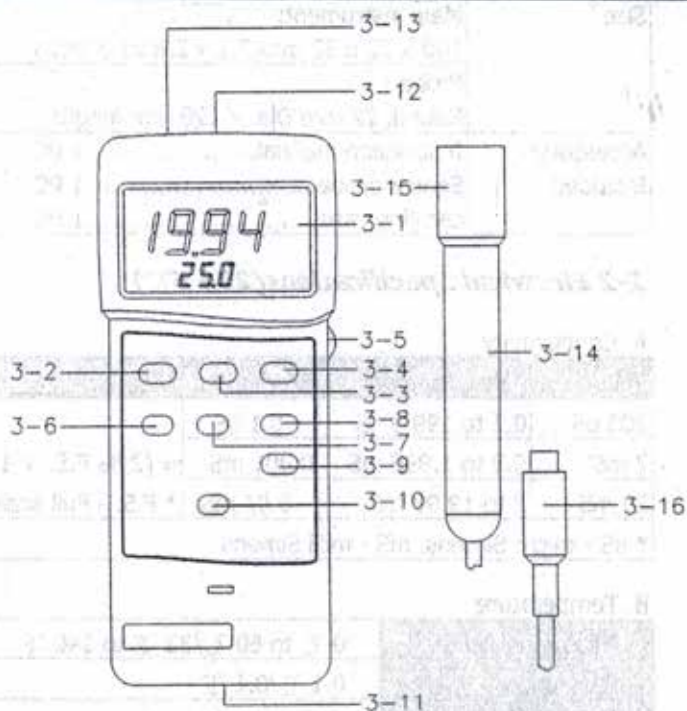

Fig. 1
- (1) Push the "Power Off/On Button"(3-2, Fig. 1) to power the instrument.
- (2) The instrument will default to 2% per °C Temperature Compensation factor. The meter has built-in Automatic Temperature Compensation adjustable between 0 to 5% per °C.
- a. Push the "Temp. Compensation Button"(3-10, Fig.1) ,the display will show
- b. Push the "Factor Adjust Button"(3-8, Fig. 1) to select the desired compensation factor. The value will increment in steps of 0.1 % per °C.
- c. Once the desired value is reached, push the "Temp. Compensation Button"(3-10, Fig. 1) to set the new value.
- (3) Select the applicable range, using the "Range Select Button"(3-9, Fig. 1).
(4) Immerse the "Conductivity Electrode "(3-15, Fig. 1) into the solution, up to the immersion level.
(5) During the measurement, the lower LCD Display will show the temperature of the solution.
** Push the "C/°F Button"(3-4, Fig. 1) to change the temperature display unit from "°C to °F" or "°F to °C".*
* During measurement, pushing the "Data Hold Button"(3-3, Fig. 1) will hold the display values & the LCD will show the "D.H" symbol.
* The DATA RECORD function displays the maximum, minimum and average readings. To start the DATA RECORD function, press the "Record Button"(3-6, Fig. 1) once. "REC" symbol will appear on the LCD display.
- Push the "CALL Button"(3-7, Fig. 1) once, then the "Max" symbol with the maximum values recorded will appear on the LCD display.
- (d) To de-activate the Data Record function, Press the "Record Button" (3-6, Fig. 1) once again. All associated annunciators will disappear from the display.
To de-activate this feature, Select the memory record function during measurement, by pressing the "RECORD" button(3-6, Fig.1).
This is achieved by controlling the "LCD Contrast Adjust" pot (3-5, fig. 1).
- (1) Prepare a " 1.413 mS Calibration Solution ".
- (2) Slide the " Range Select Switch "(3-9, Fig. 1) to "2 mS" position.
- (3) Immerse the " Conductivity Electrode "(3-5, Fig. 1) into the solution up to the immersion level.
The instrument features an RS232 output via 3.5 mm Terminal (3-13, Fig. 1).
- (1) When the left corner of LCD display show "LBT", it is necessary to replace the battery. However, in-spec measurement may still be made for several hours after low battery indicator appears before the instrument become inaccurate.
- (2) Slide the Battery Cover(3-11, Fig. 1) away from the instrument and remove the battery.
- (3) Install a 9V battery(heavy duty type) and replace the